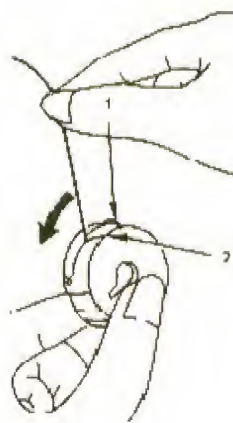

Figure 15
Draw thread out from slot '2' on end of spring '1', (Figure 14) and pass it through bobbin case thread guide '1', Figure 15.
- When straight stitching, a better result can be obtained if bobbin thread is not threaded through bobbin case thread guide '1' of Figure 15.